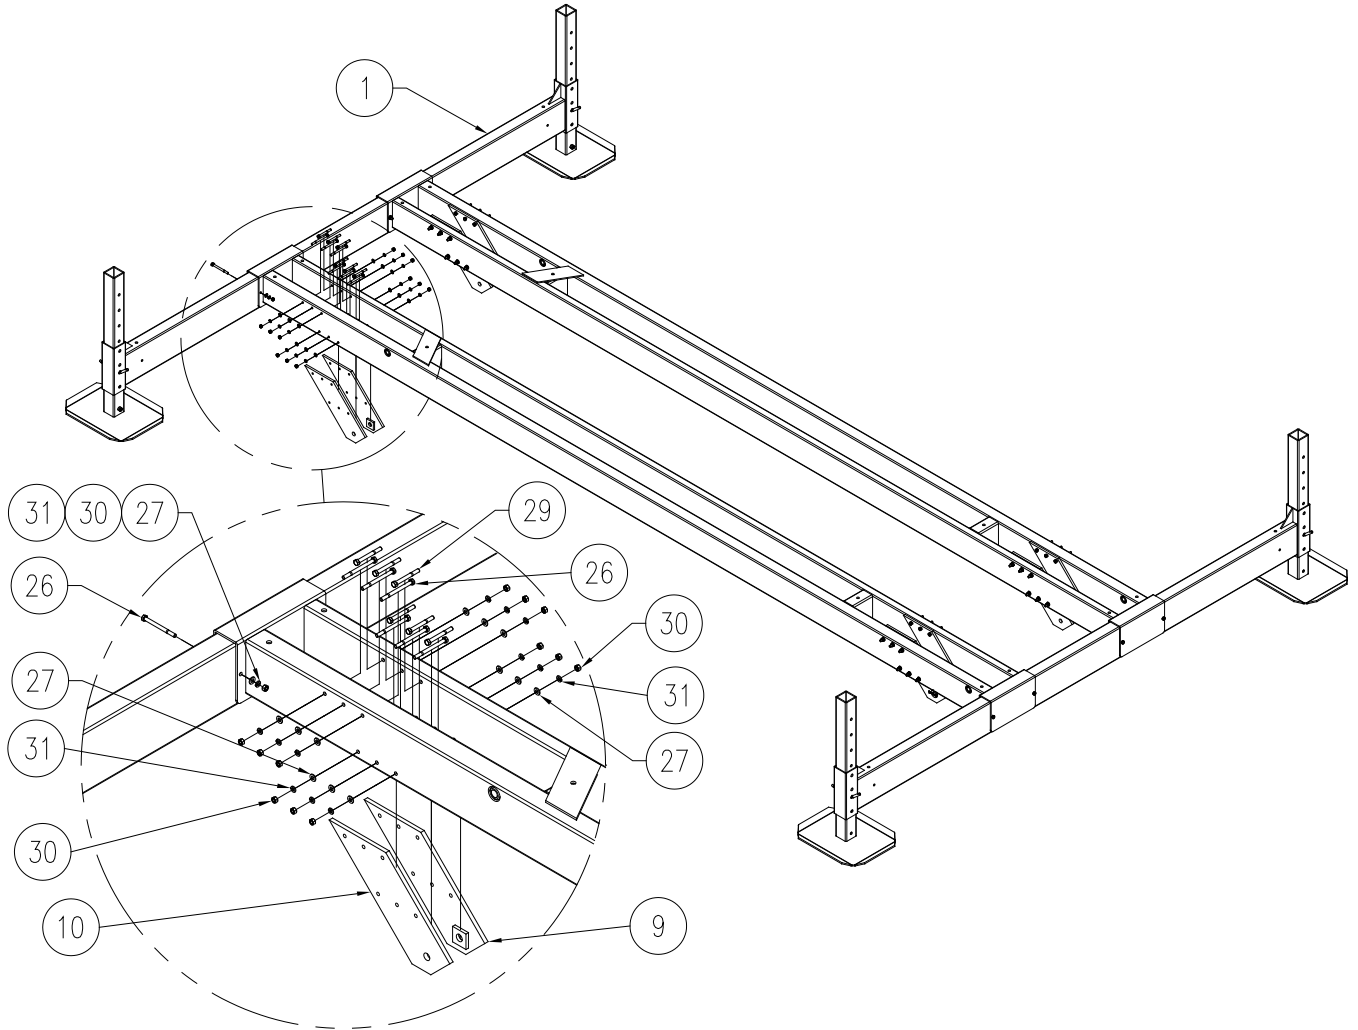

Figure 3-2.
1. Refer to Figure 3-2. Install left side main frame (2) and right side main frame (3) onto each leg assembly. Use hardware (26), (27) & (30).
2. Refer to Figure 3-2. Install the left (9) and right (10) cylinder support plates onto both ends of the right hand main frame (3). Install cylinder support plates so that the welded bosses on the support plates are facing each other.
3. Secure the cylinder support plates with hardware 26, 27, 29, 31, & 30. Use fastener (26) in the 3" wide frame tube. Use fastener (29) in the 2" wide tube frame. Install bolts so that the nuts are on the outside of frame.
4. Repeat steps 1 and 2 above to assemble left hand main frame (2).